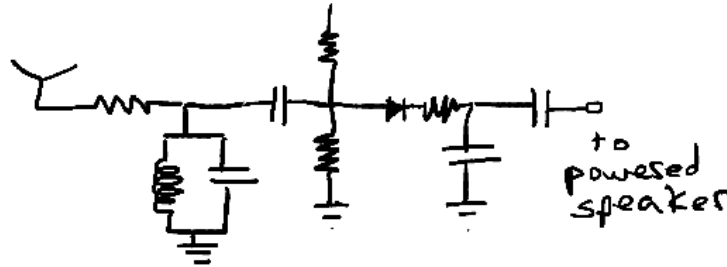

Figure 6: An FM demodulation circuit
- use your diode circuit as an "envelope detector" that filters out the carrier frequency and extracts the amplitude modulation. Use a 100 kHz low-pass filter in the envelope detection. (Humans can only hear up to 40 kHz or so). You should have something like Figure 6.